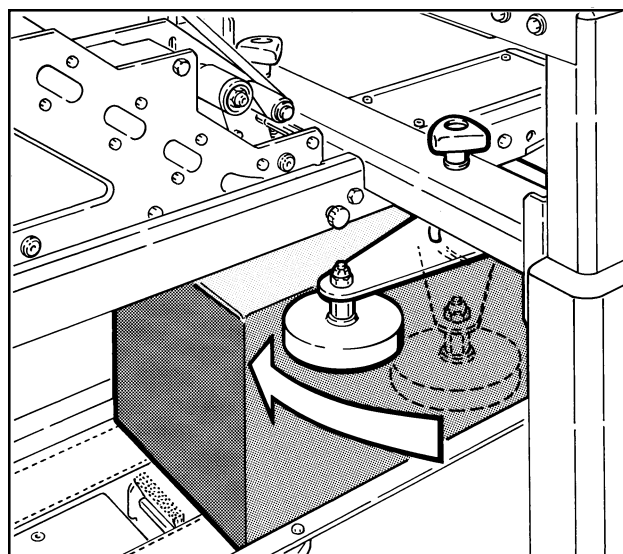

Figure 3-6 – Compression Rollers
4. POSITION COMPRESSION ROLLERS (Figure 3-6)